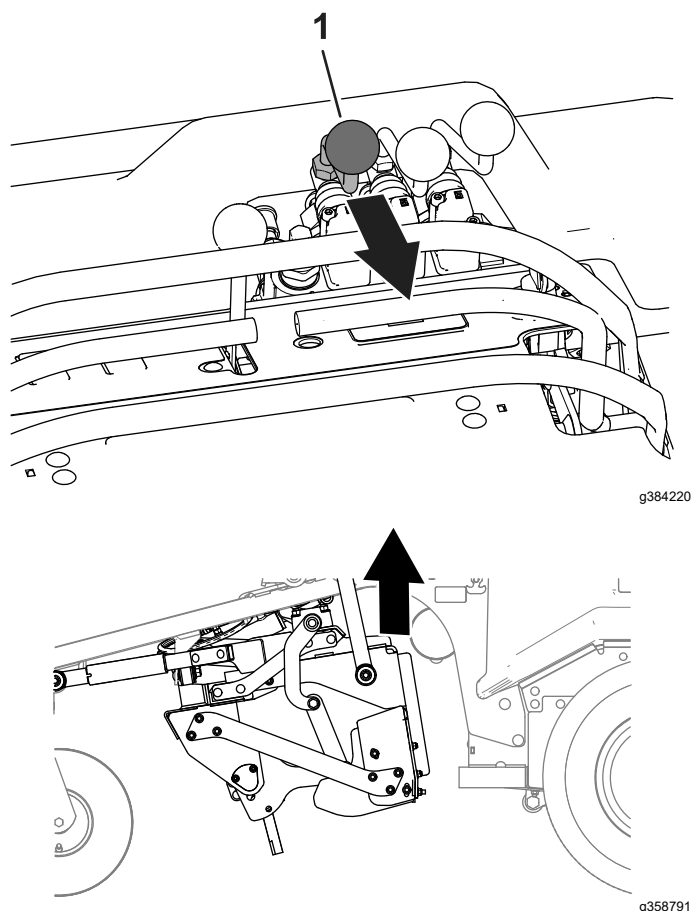

Figure 31
3. With the engine running, pull back the mid-mount attachment lift control to raise the mid-mount attachment(Figure 31).